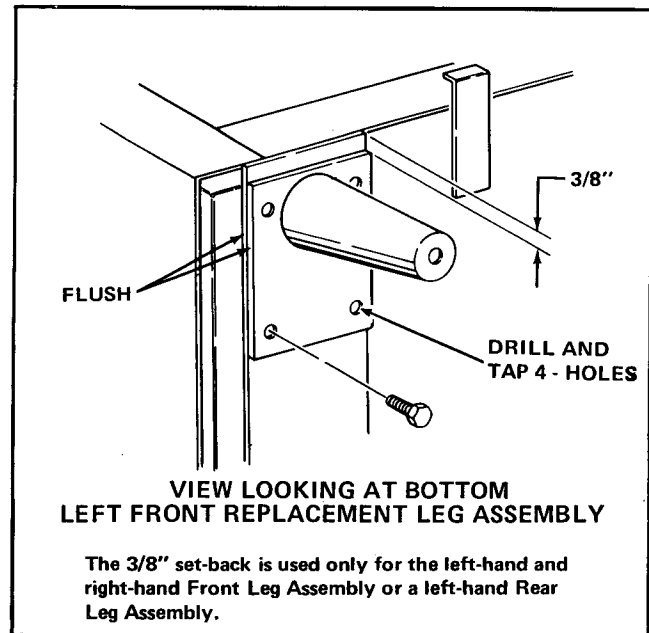

FIGURE III-2
1. Hold the replacement Leg and Leveler Assembly (part number 117-1098) against the Cabinet Leg Base Plate area from which the damage Leg Cone was removed. The replacement Leg Assembly Cone should be toward the front of the Cabinet if a front Leg is being replaced and toward the rear of the Cabinet if a rear Leg is being replaced. The cone-side edge of the replacement Leg Assembly Base Plate should be 3/8" back from the outer (short-side) edge of the Leg Base on the Cabinet. See Figure III-2. The outer-side edge (long sides) of the replacement Leg Assembly Base must be aligned and be flush with outer-side edge of the Leg Base on the Cabinet. This placement and square alignment is important.